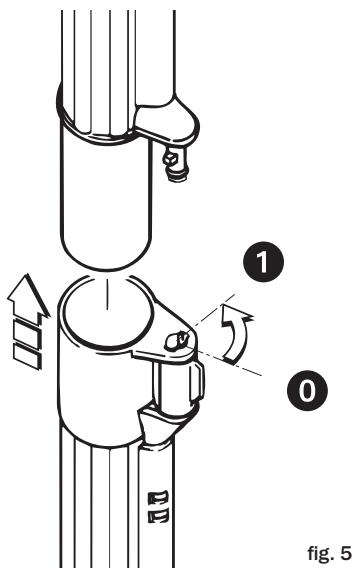

fig. 5
Assembling the extension wands (fig. 5)
- Turn the button to the right to block the wand in position (position 1 of Fig. 5).